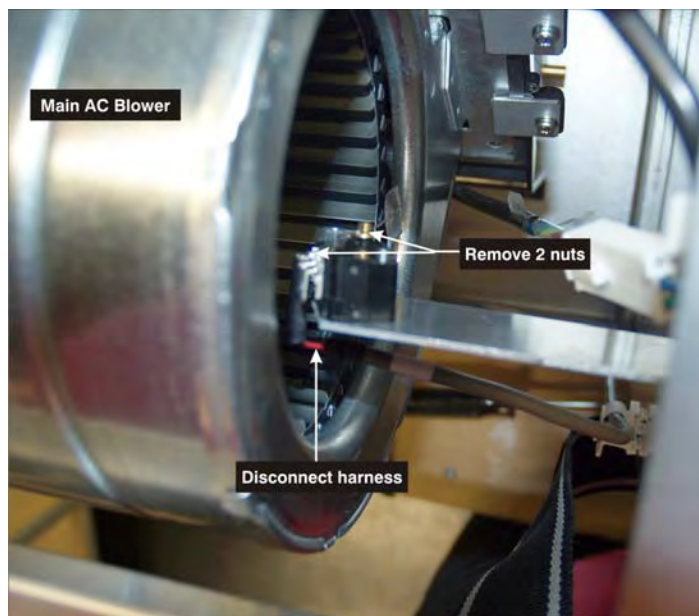

Figure 5-58 Main Blower Vane Switch
4. Disconnect the harness from the vane switch (Figure 5-58).
5. Remove the two nuts (3mm) securing the vane switch to the mounting bracket (Figure 5-58).